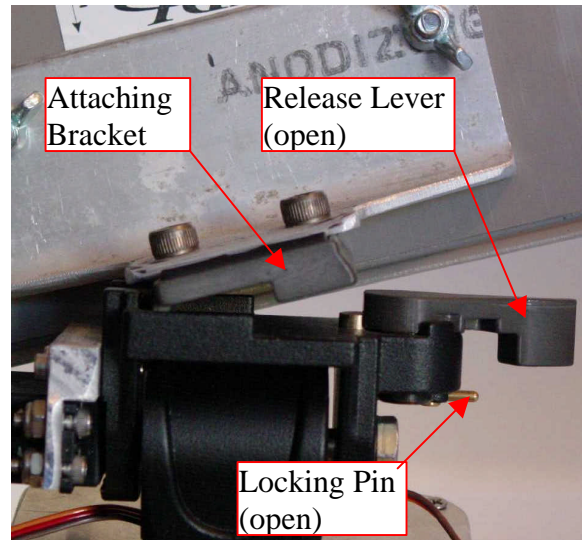

Figure 16. Attaching the antenna to the head of the tracking system.
- Next, attach the flat plate antenna to the tripod head (see Figure 16).
- As depicted in Figure 16, hold the antenna in a slightly tilted position and butt the left edge of the attaching bracket up against the left edge of tracking head's top surface.